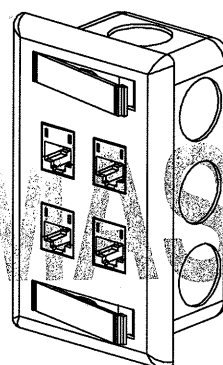

FIGURE 5
6. TO REMOVE LABEL COVER: (SEE FIGURE 5)